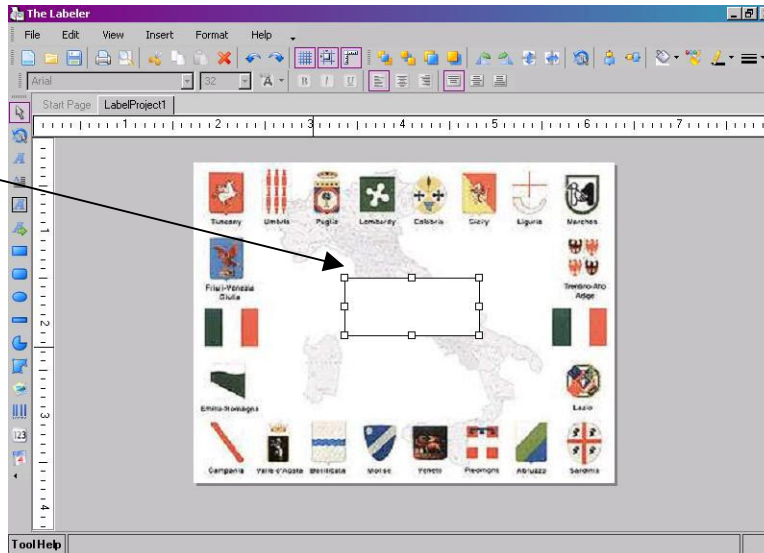

Figure 4.2.6.1: Select the shape to apply fill colour to
2. Select the fill colour tool  icon from the formatting tool bar (see Figure 4.2.6.2).